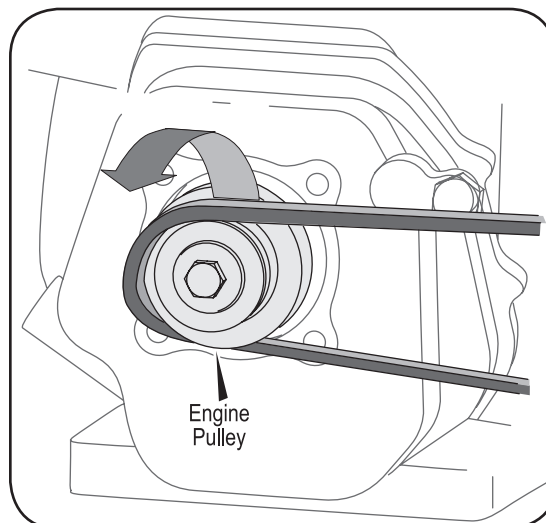

Figure 5-6: Forward drive belt removal.
5. Remove belt from the reverse idler pulley and then from around the transmission pulley. See Figure 5-6.